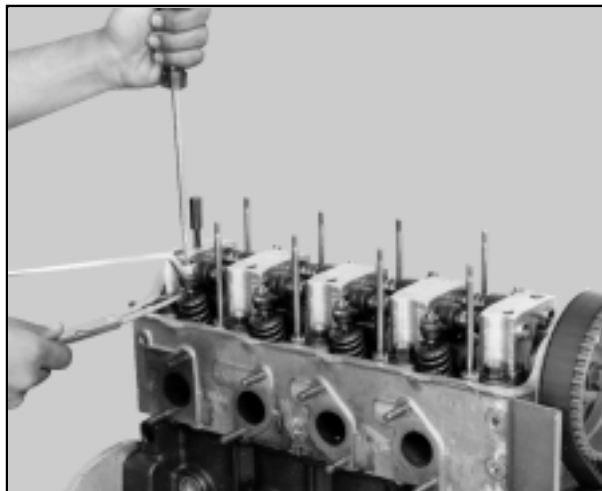

Fig. 120
- Adjust the valve clearances of cylinder No. 3 & 4 on inlet valves and cylinder No. 2 & 4 on exhaust valves Fig. 120